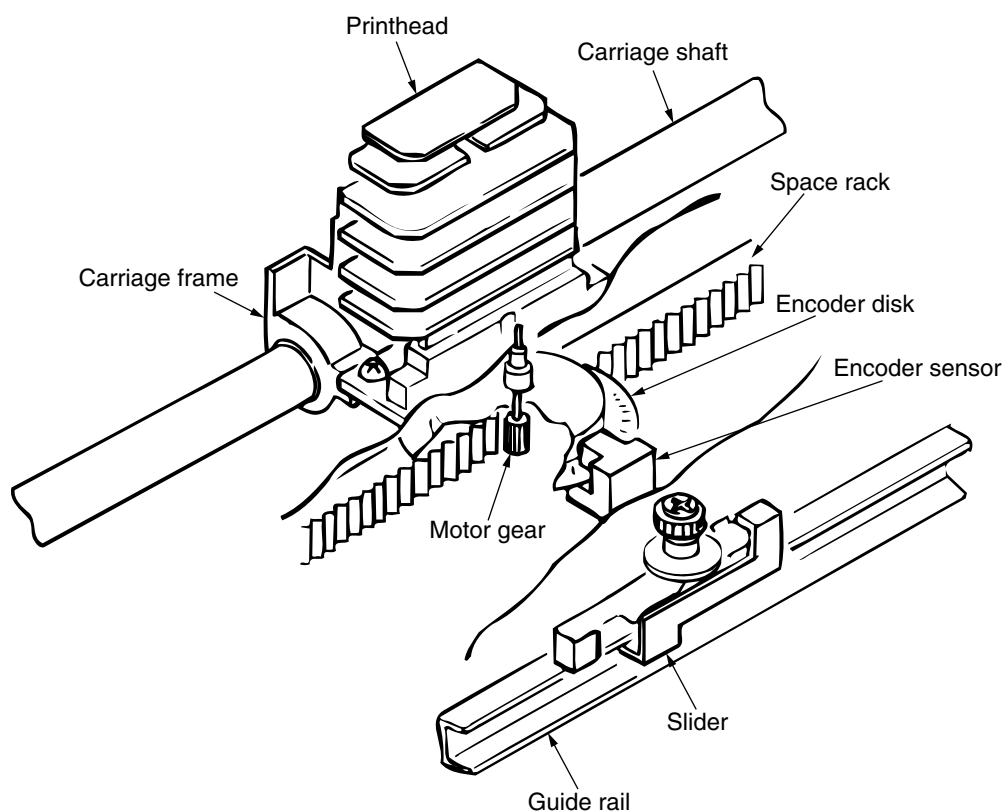

Figure 2-4
2.2.2 Spacing Operation (See Figure 2-4.)